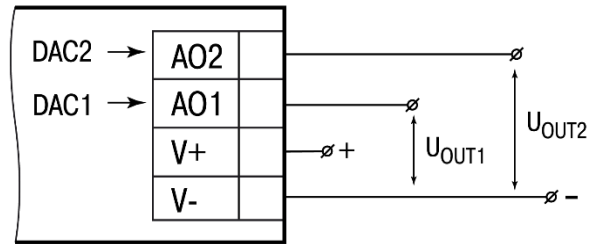

Fig. E.6
1. Connect a reference voltage source and a measuring device of accuracy class at least 0.05 to the output (Fig. E.6).